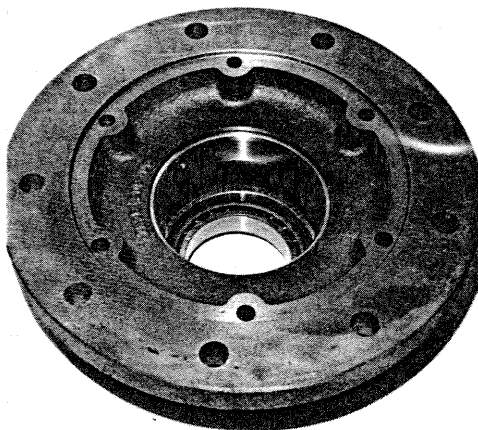

Figure 1 Press bearing cup into hub
**STEP 1** Press a new bearing cup, (Figure 1) in each side of the hub.